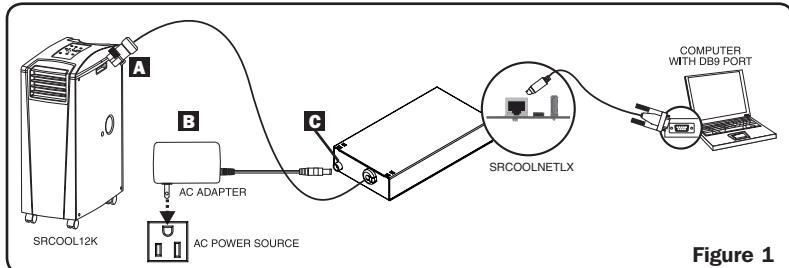

Figure 1
**2-1 Connect the SRCOOLNETLX to the SRCOOL12K or SRXCOOL12K(B):** Using the dedicated connector **A**, connect the SRCOOLNETLX to the communication port on the side of the spot cooler (see Figure 1 in section **3-3**).
**2-2 Connect SRCOOLNETLX to Power:** Connect the AC Adapter **B** to the SRCOOLNETLX via the port labeled “DC Power” **C** and plug the other end into an AC power source (see Figure 1 in section **3-3**).